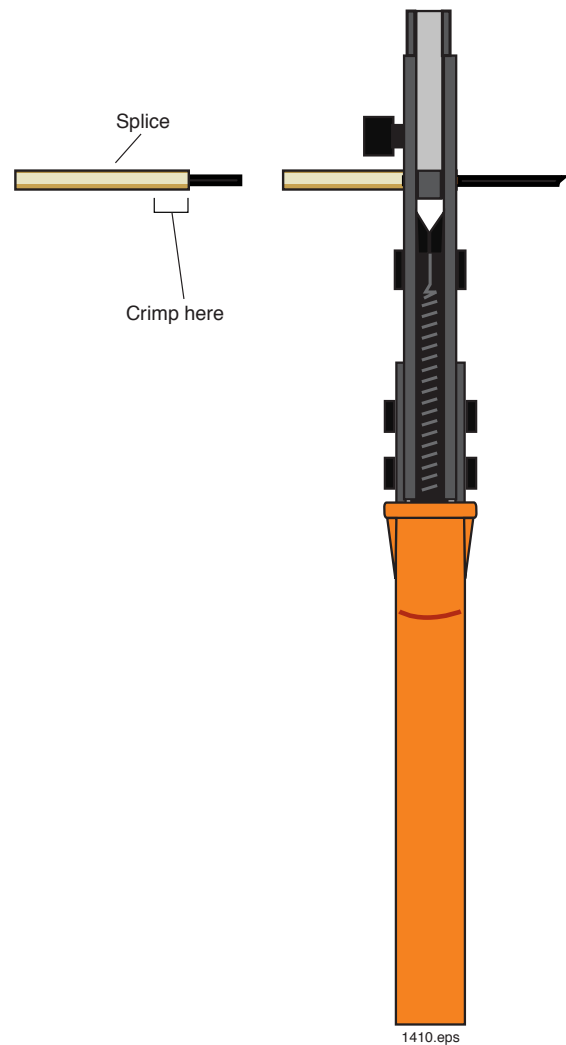

Figure 29. Alignment of the fiber capillary fiber splice with the fiber crimper for correct installation.
13. Make sure the fiber cable is still pushed completely into the splice as shown in Figure 29. While making certain the fiber cable and splice body do not move out of position, slowly squeeze the handles to close the jaws until the tool bottoms and springs open. The crimp is now complete.